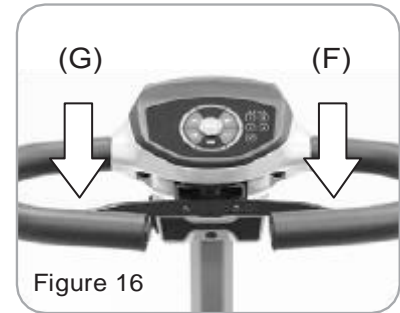

Figure 16
- Pull the right throttle lever (F) to move scooter forward. Pull the left throttle lever (G) to move scooter backward. This can be reversed if required by local dealer. (Figure 16)